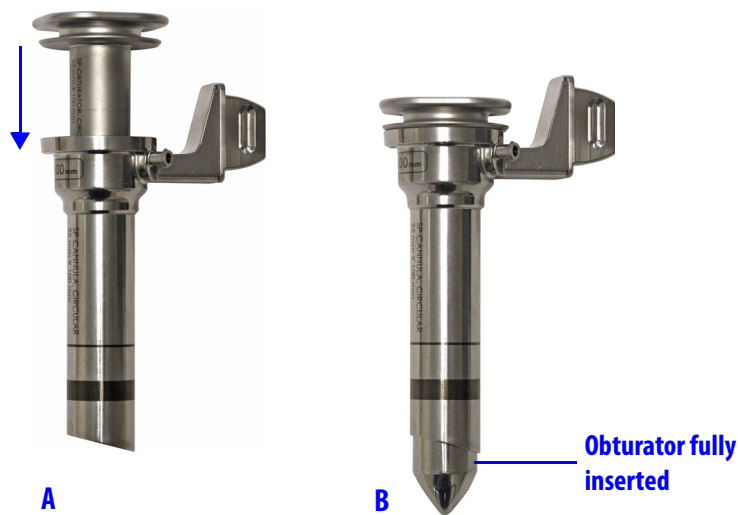

Figure 9.6 Insert the obturator (A) until it is fully inserted (B)
- Insert the obturator into the SP Cannula to inspect the inner diameter of the SP Cannula (Figure 9.6 A and B). If the obturator cannot be inserted smoothly through the SP Cannula, use a new SP Cannula.